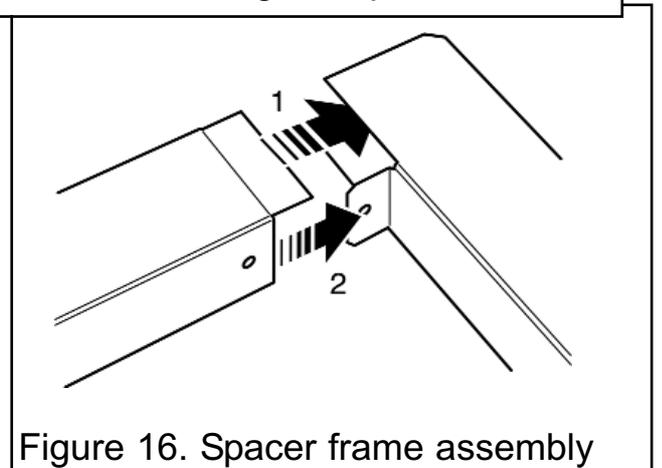

Figure 16. Spacer frame assembly
11. The sides have a stepped top face. These must be located on the inside the top piece (See point 1 of figure 16). The tabs on the top piece must locate on the inside of the side pieces (See point 2 of figure 16). Secure the two side pieces to the top piece using two self tapping screws supplied. Locate the screws from inside the 'U' channel.